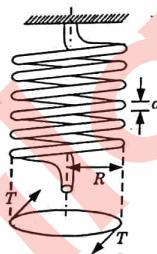

Fig. 5.5.1.
- The axial torque T tends to wind up the spring by producing approximately a pure bending moment at all cross-sections (Fig. 5.5.1).